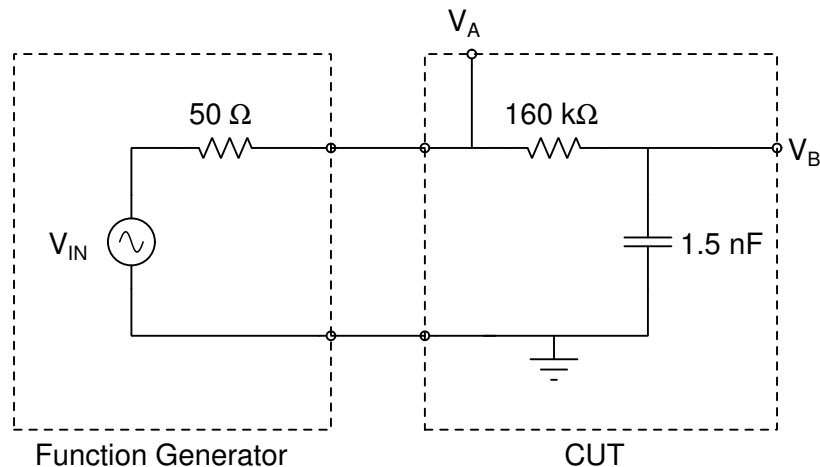

Figure 1: Circuit to be analyzed in Lab #2.
The circuit under test (CUT) is shown in Figure 1. Node voltages V_A and V_B will be measured using the two input channels on the oscilloscope. As in Lab #1, the input impedance of each channel will influence the circuit behavior. The 1X probe connecting the function generator to the circuit, and the scope probes connecting the CUT to the oscilloscope are not explicitly shown in Figure 1. However, the capacitance of these probes can influence the circuit behavior.
2. For the RC circuit shown in Figure 1:
- (a) For the circuit in Figure 1, set the peak input voltage set to 1 V, and simulate the node voltages V_A and V_B , and the phase shift (PS) in degrees between the two nodes. Record your results in the “Ideal Simulated Circuit” columns in Table 1.
- (b) Modify the circuit schematic in Figure 1 to include the probe capacitances and the input impedances of the two oscilloscope channels at nodes V_A and V_B . With the peak input voltage set to 1 V, simulate the node voltages V_A and V_B , and the phase shift (PS) in degrees between the two nodes. Record your results in the “Complete Simulated Circuit” columns in Table 1.
2. Measure the values for each component needed in the circuit shown in Figure 1 using the LCR meter and a DVM. When measuring the capacitance, measure both C and DF at frequencies of 1 kHz and 10 kHz. Calculate the ESR of the capacitor at these frequencies. Can the ESR be ignored? Explain your reasoning in your notebook.
3. Build the circuit shown in Figure 1: